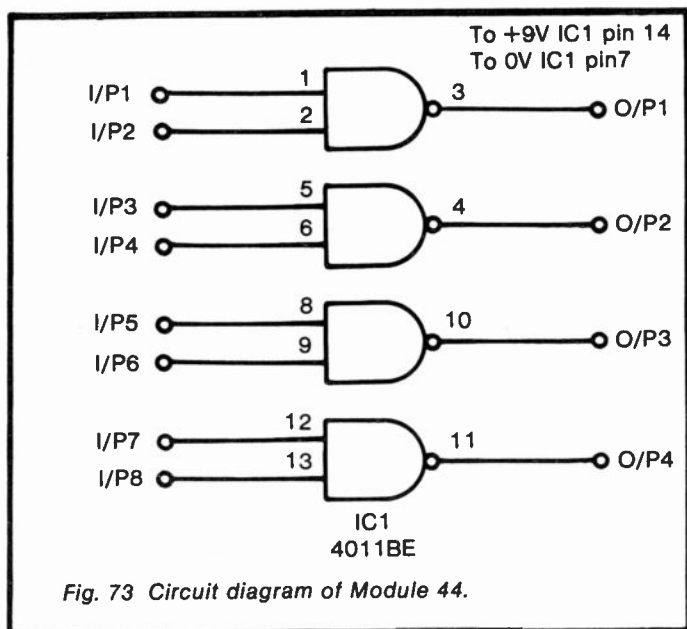

Fig. 73 Circuit diagram of Module 44.
**Circuit diagram:** see Figure 73.